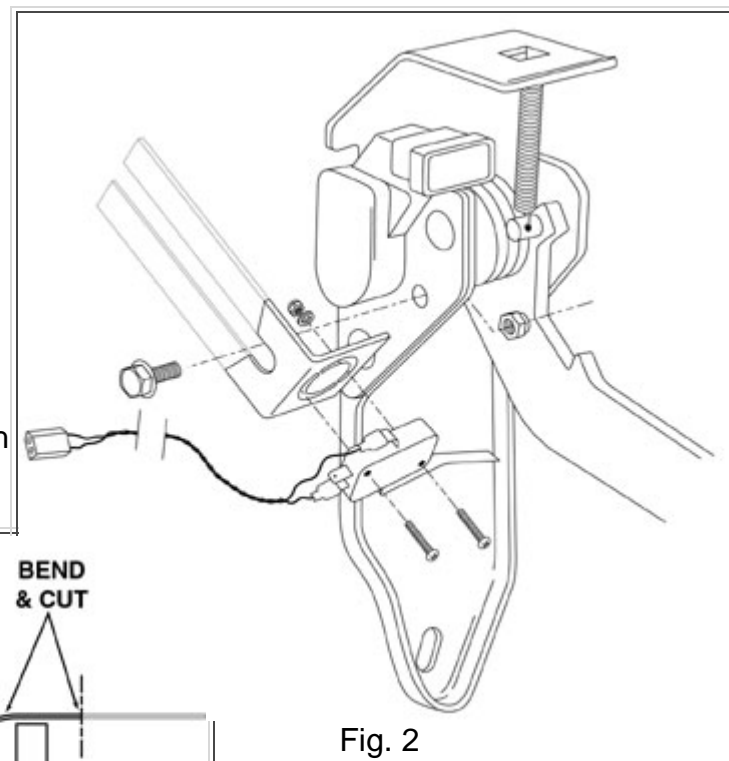

Fig. 2
1. The throttle assembly for the GM Duramax is illustrated in Fig. 2. Notice that there is a black plastic plate riveted to the throttle bracket. The black plate attaches the Accelerator Pedal Position Sensor (APPS) to the throttle bracket. (The throttle pedal lever is also attached to the bracket.) Three rivets secure the black plastic plate to the throttle bracket.
4. Using snips, cut the long, slotted face of the microswitch bracket so that the bracket will fit over the angled edge of the throttle bracket assembly as shown in Fig. 2. **NOTE:** The flange-head bolt included with this kit should sit in the bottom of the slot of the microswitch bracket. If the bolt does not rest on the bottom of the slot, you will need to trim the excess of the slotted arm of the bracket.
5. Attach the microswitch bracket to the throttle assembly using the 5/8" flange-head bolt and nut supplied in the kit. Attach the the microswitch to the microswitch bracket as shown in Fig.2.